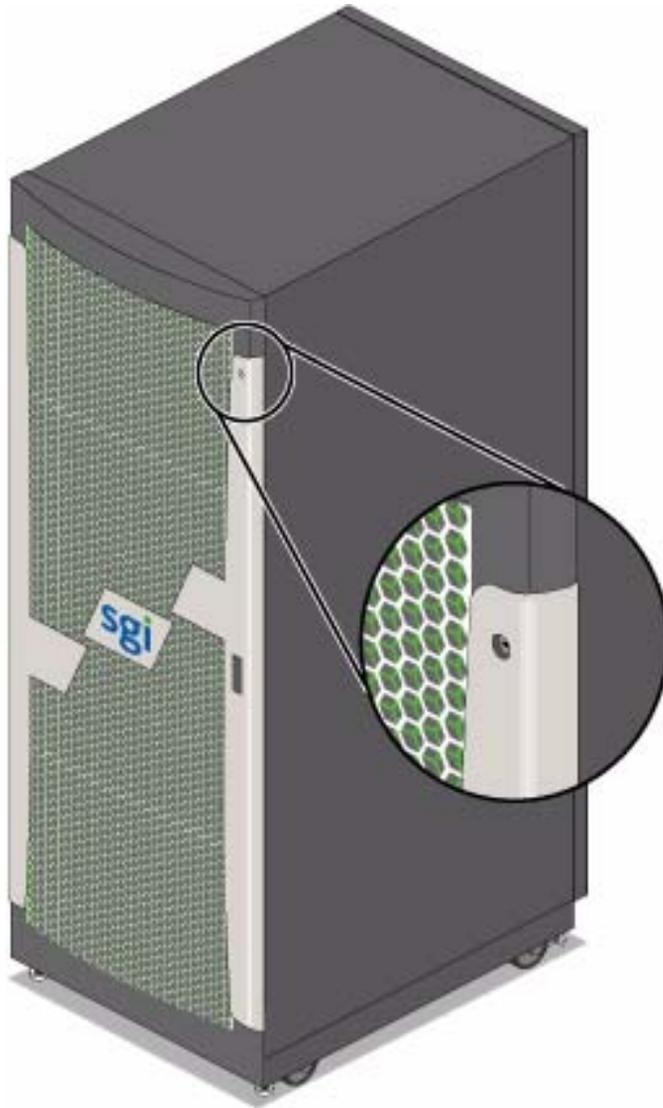

Figure 4-2 Front Lock on Tall (42U) Rack
- **Front and rear door.** The front door is opened by grasping the outer end of the rectangular-shaped door piece and pulling outward. It uses a key lock for security purposes that should open all the front doors in a multi-rack system (see Figure 4-2 on page 48). A front door is required on every rack.